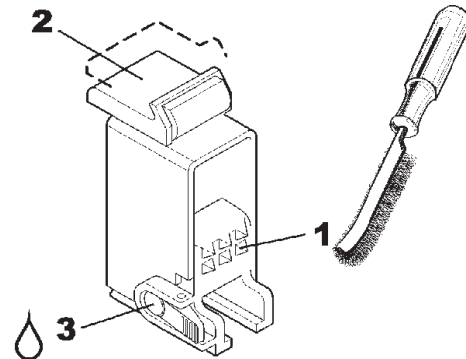

Fig. 6.0-2
C. Weekly clean the teeth of the jaws (1 Fig. 6.0-2) with a wire brush, check the nylon clamping jaw insert (2) and